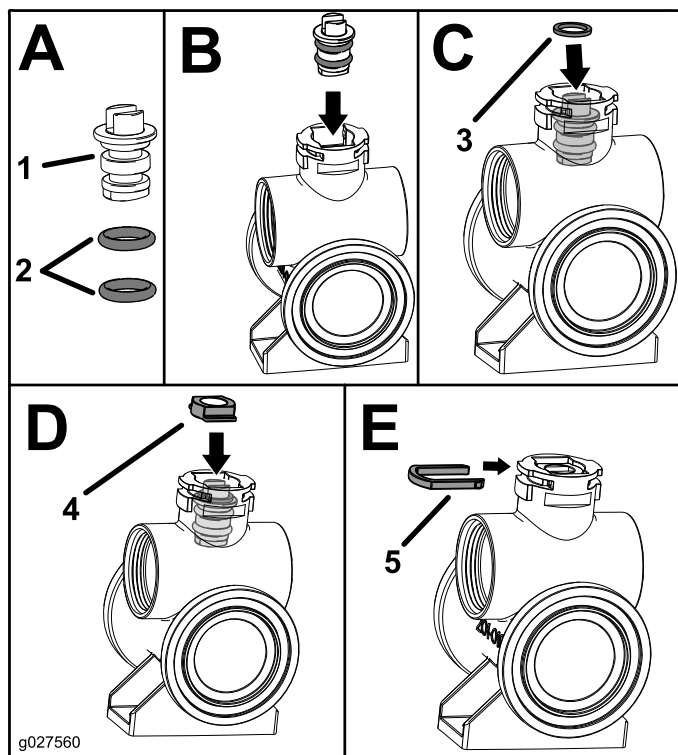

Figure 4
1. Apply grease to the valve stem and install the new valve stem O-rings onto the valve stem (Box A; Figure 4).
2. Install the valve stem assembly into the valve body (Box B; Figure 4).
3. Install the thrust washer onto the valve stem assembly (Box C; Figure 4).
4. Install the stem retainer on to the valve stem assembly (Box D; Figure 4).
5. Install the stem retainer hair pin (Box E; Figure 4).